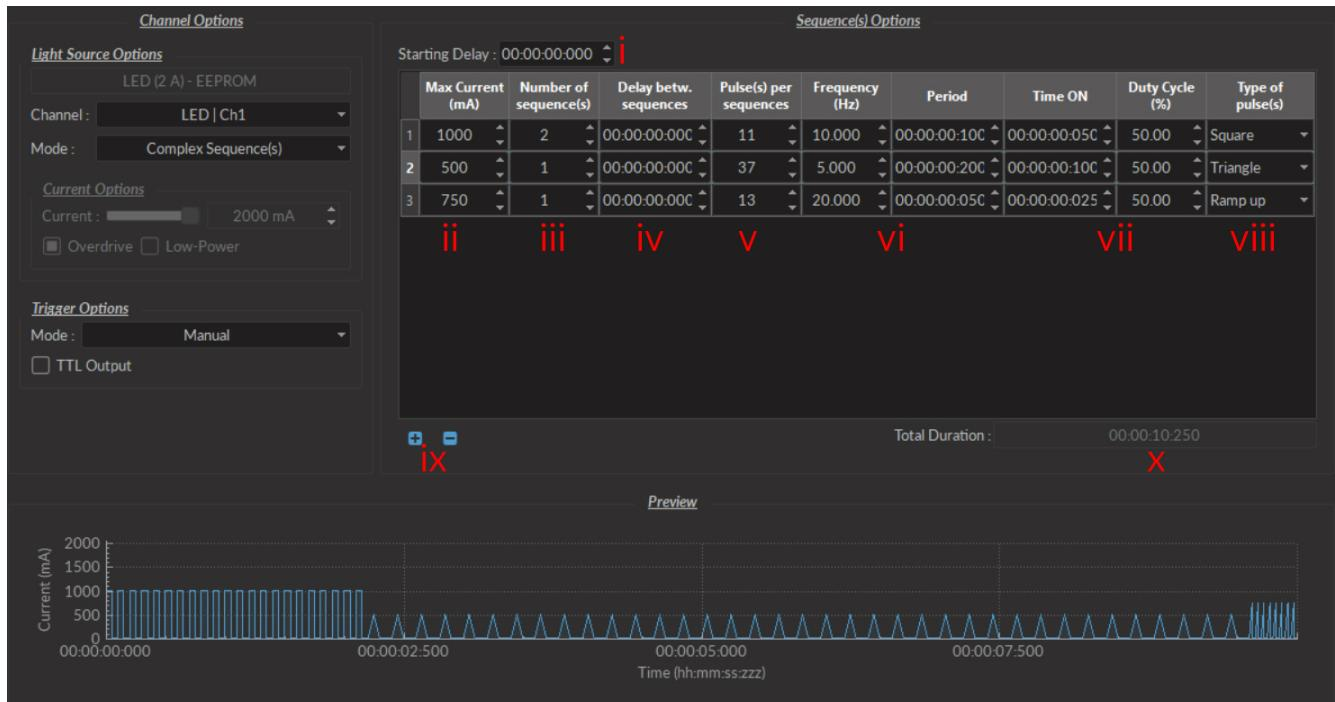
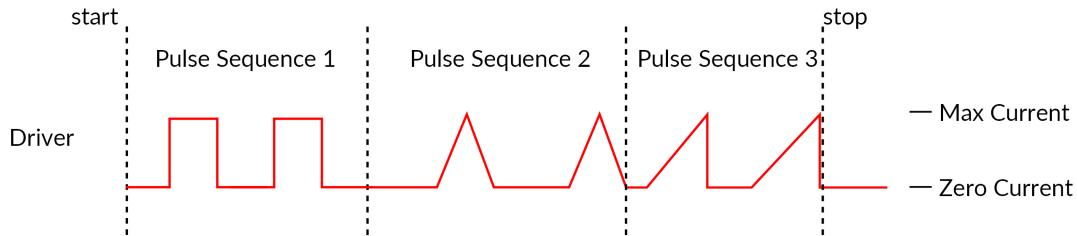

Figure 3.8: Complex Sequences Window
Figure 3.9: Internal Complex Mode Pulse Sequences
- The **Starting Delay** (Fig. 3.8) sets the delay (in hh:mm:ss:zzz format) before the first pulse sequence.
- The **Max Current** (Fig. 3.8) sets the maximum current (in mA) for the given sequence.
- The **Number of sequences** (Fig. 3.8) sets the number of times that the sequence will be repeated, with a minimum of 1.
- The **Pulses per sequence** (Fig. 3.8) sets the number of pulses per sequence, with a minimum of 1.
- The **Delay between sequences** (Fig. 3.8) sets the delay (in hh:mm:ss:zzz format) between each sequence if the **Number of Sequences** is greater than 1.
- The **Frequency/Period** (Fig. 3.8) sets the frequency (in Hz) or period (in ms) for the pulse sequence. These two values are linked, and when one is changed the other will adjust automatically. For example, a signal at 10 Hz (frequency) will output one pulse every 100 ms (period), whereas a pulse sequence at 0.5 Hz (frequency) will output one pulse every 2000 ms (period).
- The **Time ON/Duty Cycle** (Fig. 3.8) sets the time (in ms) or the duty cycle (in %) for each pulse. These two values are linked, and when one is changed the other will adjust automatically. The **Time ON** must be lower than $(1/\text{frequency})+0.005$ ms, while the **Duty cycle** must be below 100 %.
- The **Types of pulses** (Fig. 3.8) sets the pulse type. Pulses can be **Square**, triangular (**Triangle**), **Ramp up** **Ramp down** or **Delay** (Fig. 3.9). The **Delay** pulse type is used to create a delay between different sequence
- The **Sequence controls** (Fig. 3.8) allow the addition (+) or removal (-) of sequences to the spreadsheet.
- The **Total Duration** (Fig. 3.8) displays the total time of the experiment. The different values can be **Inf** for infinite, a valid time value or **Err** if the **Time ON** value is greater than $1/\text{frequency}$.